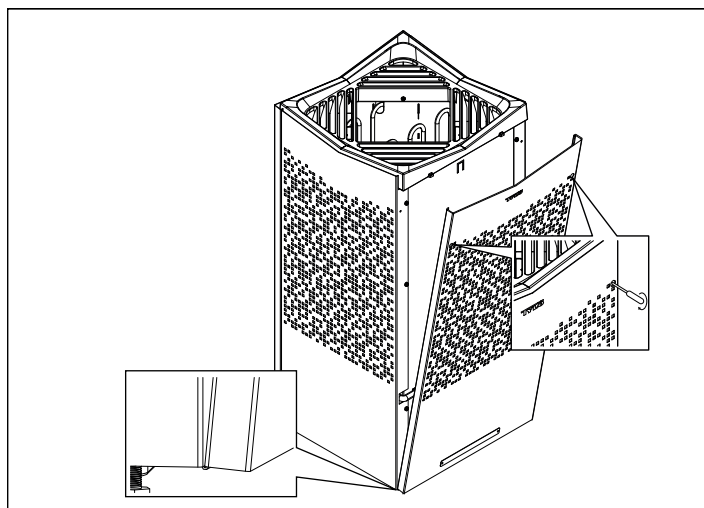

Fig 10: Hook and screw back front panel
6. Hook on the front panel and tighten the screws (see Figure 10).